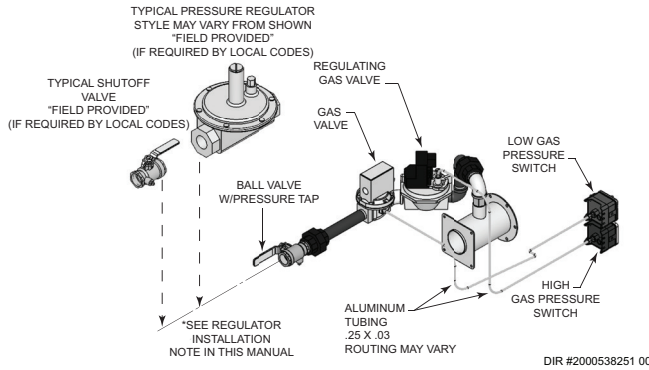

Figure 4-3A_PB/PF 502 - 1302 F9 High & Low Gas Pressure Switches
- Figures 4-3A, B, and C on page 49 show piping connections for high and low gas pressure switches for respective Power-fin models.